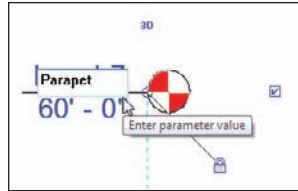

FIGURE 3.10 Renaming the level
4. Type Parapet, as shown in Figure 3.10, and press Enter.